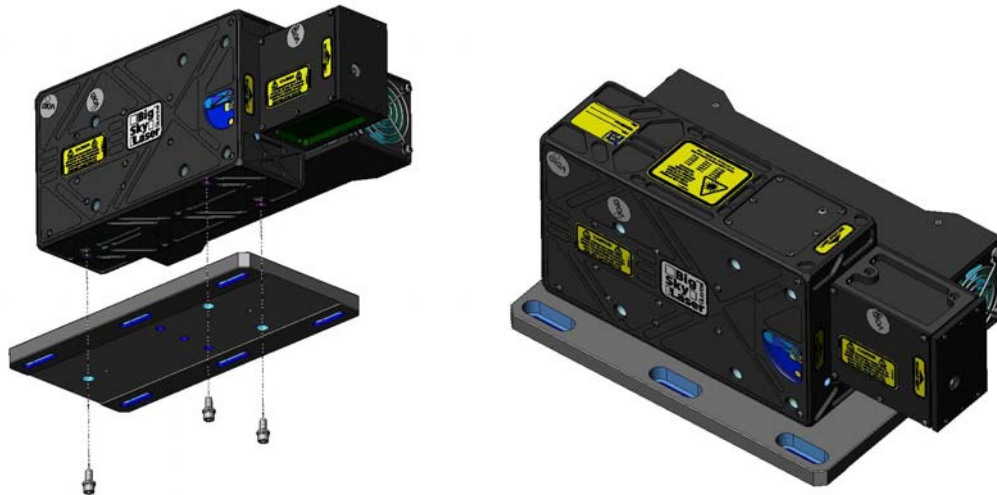

Figure 3-3: Mounting Through Optional Mounting Plate
2. When using the air-cooled heat sink, the laser can be mounted using three (3) #10-32 UNC screws as shown in Figure 3-3. These screws need to come through the mounting plate and screw directly into the Laser Head. Two (2) 1/8 in. or M3 dowel pins can be used for accurately locating the laser. An optional mounting plate is available which will allow mounting on a conventional optical table with #1/4-20 or M6 mounting holes. The Quantel USA part number for the mounting plate is 16008311.
The optional mounting plate is shown in Figure 3-3. However, any suitable surface plate geometry is acceptable. The surface needs to be flat to prevent the optical structure from misaligning. Refer to Figure 3-2 for reference dimensions.